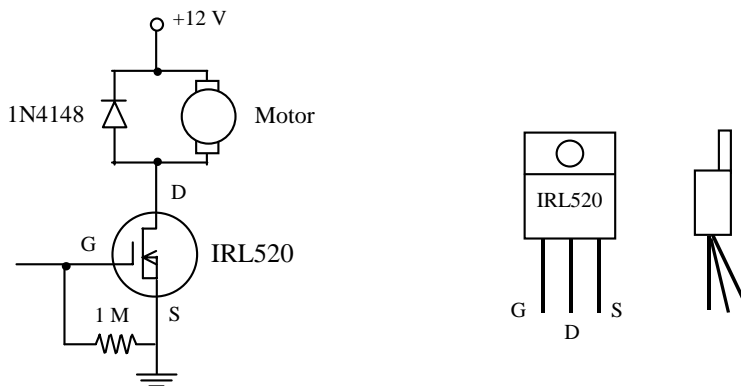

Figure 1. DC Motor Driver Circuit. The circuit uses an IRL520 power MOSFET. MOSFET's are very static sensitive, so handle them by the metal tab.
- Build the circuit shown in Figure 1. Don't forget the diode. **Important note:** MOSFET's are very sensitive to static electricity. Make sure that you are not carrying static charge before you handle these devices. It is best to work on a properly grounded anti-static surface with an anti-static bracelet on your wrist. If these precautions are not available, then discharge yourself by touching a grounded metal surface (such as the frame of the bench) before you handle a MOSFET. Always handle a MOSFET by its large metal tab and by its leads.
The MOSFET you will be using in this lab is the IRL520. It is specifically designed to be fully turned on by logic-level circuits (5 V), which makes it ideal for controlling medium power devices, such as dc motors, using a microcontroller. Its package style is an industry standard TO-220. This package is somewhat awkward to use in a solderless breadboard, because its leads are so large. To avoid damaging the solderless breadboard, insert the IRL520 so that its metal tab is **parallel** to one of the 5-hole rows, but with each lead in a separate row. To do this, you will have to bend the leads slightly (see Figure 1). The 1 M Ω resistor is used to make sure that charge can bleed out of the gate to ground to turn off the MOSFET in the event that the microcontroller pin it connects to inadvertently changes from being an output (with logic high asserted) to an input (high impedance).